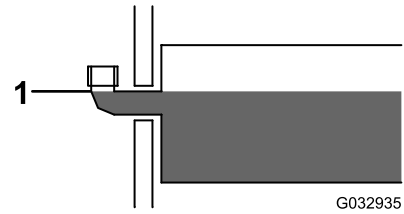

Figure 34
4. Slowly fill the reservoir with BOSS high-performance hydraulic fluid to the bottom of the fill elbow (Figure 34).
3. Remove the fill cap from the hydraulic reservoir (Figure 34).